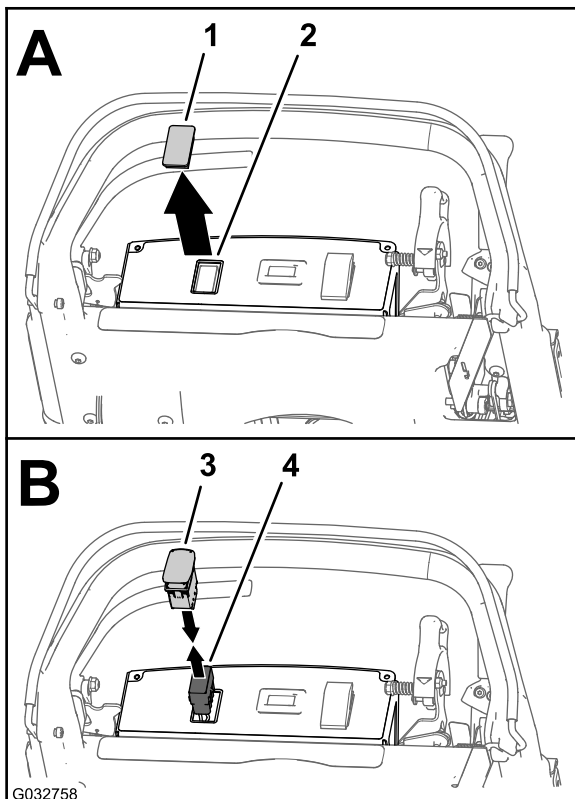

Figure 17
1. Remove the plug from the opening at the left face of the control panel (Figure 17).
2. Pull up the 10-socket connector of the wire harness from the light kit and hour meter wire harness kit through the opening in the control panel (Figure 17).
3. Connect the 10-pin connector of the 2-position rocker switch into the 10-socket connector of the light kit and hour meter kit (Figure 17).